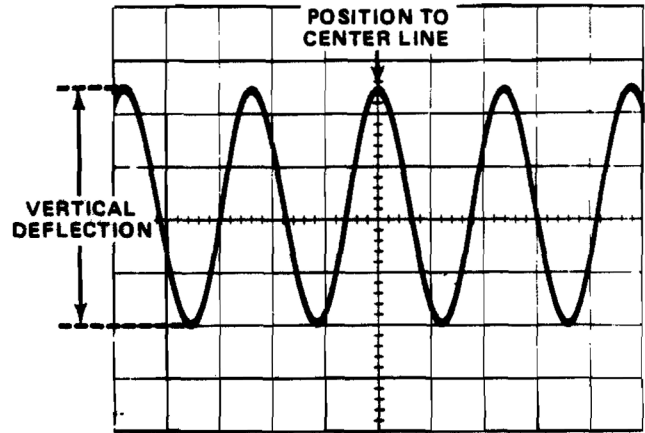

Fig. 1-4. Measuring the peak-to-peak voltage of a waveform.
6. Turn the 7A24 POSITION control so the lower portion of the waveform coincides with one of the graticule lines below the center horizontal line, and the top of the waveform is within the viewing area. With the time-base Position control, move the display so one of the upper peaks lies near the center vertical line (see Fig. 1-4).
EXAMPLE: Assume that the peak-to-peak vertical deflection is 4.5 divisions (see Fig. 1-4) using a 10X attenuator probe, and the VOLTS/DIV switch is set to 1 V.